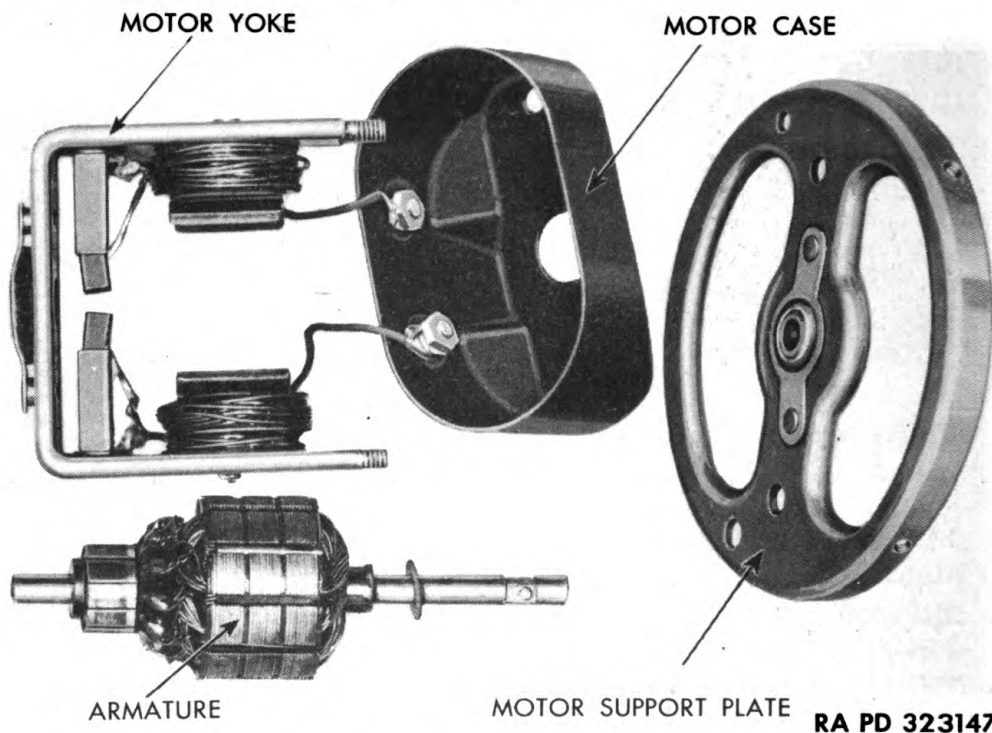

Figure 148 — Siren Motor Armature Removed
- b. **Install Armature** (figs. 148 and 149). Insert armature shaft through hole in motor case and into bushing in motor support plate. Place armature between field, spread brushes until commutator will pass between, and move armature until its shaft enters bushing in yoke. Install two nuts with lock washers attaching yoke motor case and motor support plate together. Install motor case cover, and tighten attaching screw. Oil felt washers next to motor bushings sparingly with engine oil SAE 10.